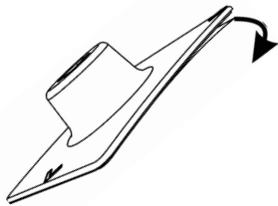

Fig 12
- Remove the protective backing from the Adhesive Pedestals and install on the hood surface. Use caution to not contaminate the adhesive surface. (Fig 12)